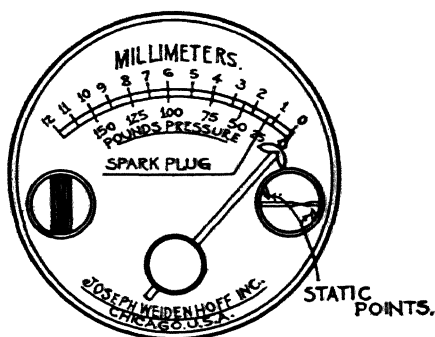

Fig. 3. The Spark-Plug Testing Gauge
have the voltmeter and ammeter separate; that is, two individual instruments instead of a combined instrument as shown in Fig. 3.
**Check Static Points.** The clearance between the static points and the gap electrodes, Fig. 3, should be .005-inch. Check these daily to see that dust does not accumulate between the points and the gap electrodes. The spark points should just touch at the zero setting of the gap.